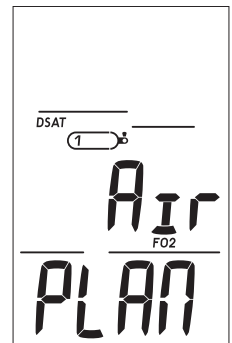

Fig. 8A - PLAN LEAD-IN
**Plan Lead-in**, information includes (Fig. 8A, B):